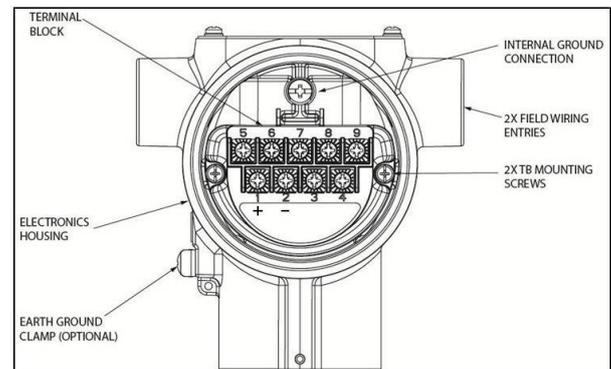

Figure 8: Terminal Block and Grounding Screw location
Loop wiring is connected to the transmitter by attaching the positive (+) and negative (-) loop wires to the positive (+) and negative (-) terminals on the transmitter terminal block in the electronics housing shown in Figure 8. Connect the loop power wiring shield to earth ground only at the power supply end.
1	See Figure 8, above, for parts locations.
- See Figure 8, above, for parts locations. Loosen the end cap lock us a 1.5 mm Allen wrench.
A wire from the earth ground clamp (ref. **Figure 8**) of transmitter must be connected to earth ground to make the lightning protection effective. Use a size 8 AWG or (8.37mm²) bare or green covered wire for this connection.